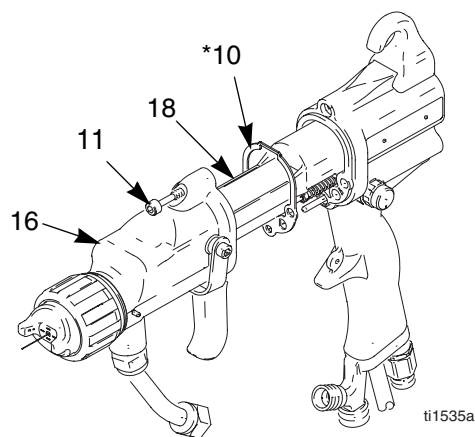

Fig. 14. Barrel Installation
1. Be sure the gasket (10*) is in place. Make sure the air holes are aligned properly. Replace if damaged. See FIG. 14..
2. Place the barrel (16) over the power supply (18) and onto the gun handle (17).
3. Tighten the three screws (11) oppositely and evenly (about a half turn past snug).